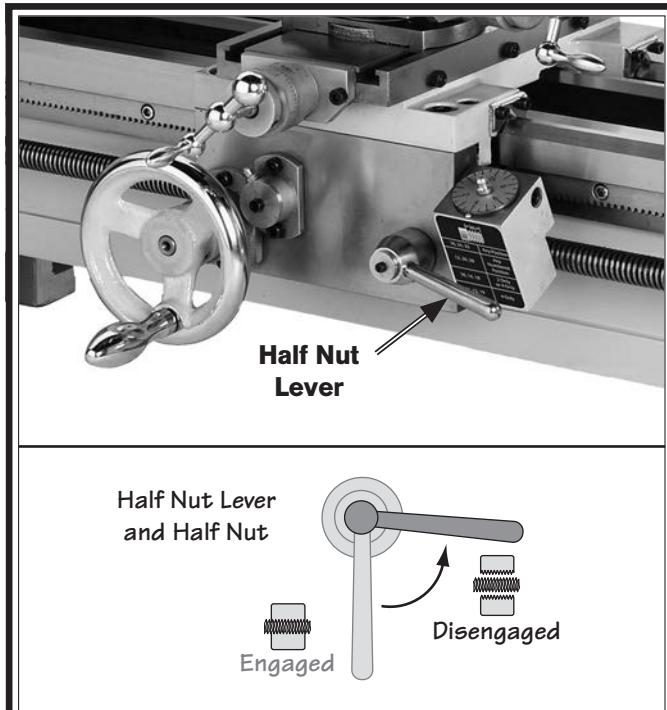

Figure 17. Half nut lever in the disengaged position.
- 9.** To prevent the carriage from unexpectedly moving during further steps, move the half nut lever up to disengage the carriage from the leadscrew (see **Figure 17**).